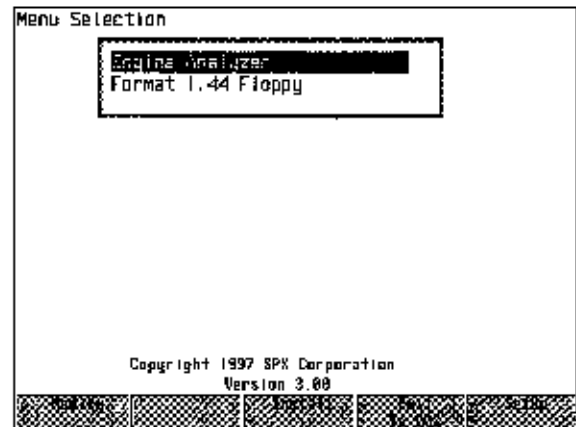

Figure 1-10
- A. Turn the Analyzer "ON." The "Module Selection" menu screen will appear (see Figure 1-10). Highlight the "Engine Analyzer" and press [ENTER] to start the program.